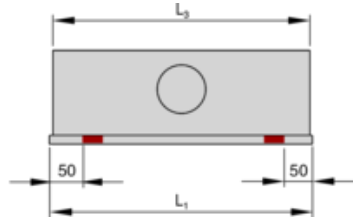

Fig. 16: Front rail length = plenum box length
3. Check and position the fixing material in the groove, positioning it as shown in Figure Fig. 13 to Fig. 16.